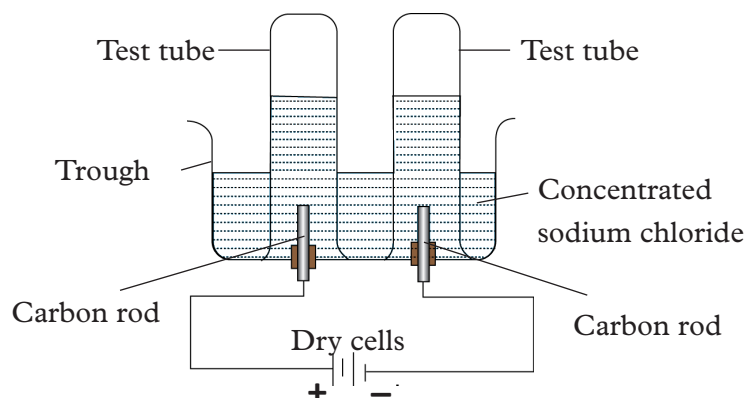

Fig. 8.5: Electrolysis of brine
1. Set up the apparatus as shown in Fig. 8.5.